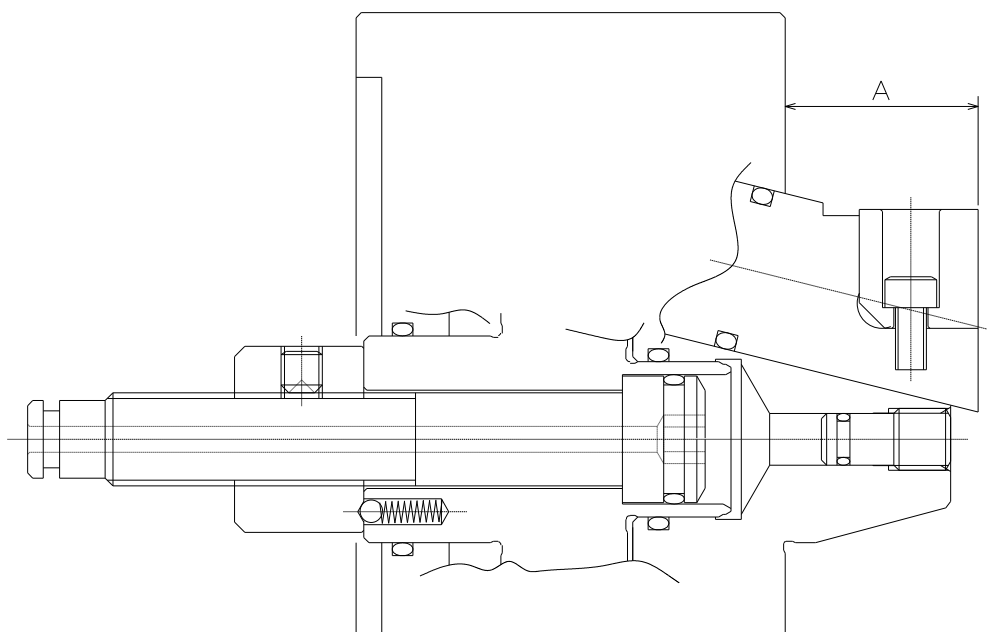

Fig.13
- The appropriate position of the plunger at the cylinder forward end is the position when the dimension A in Fig.13.